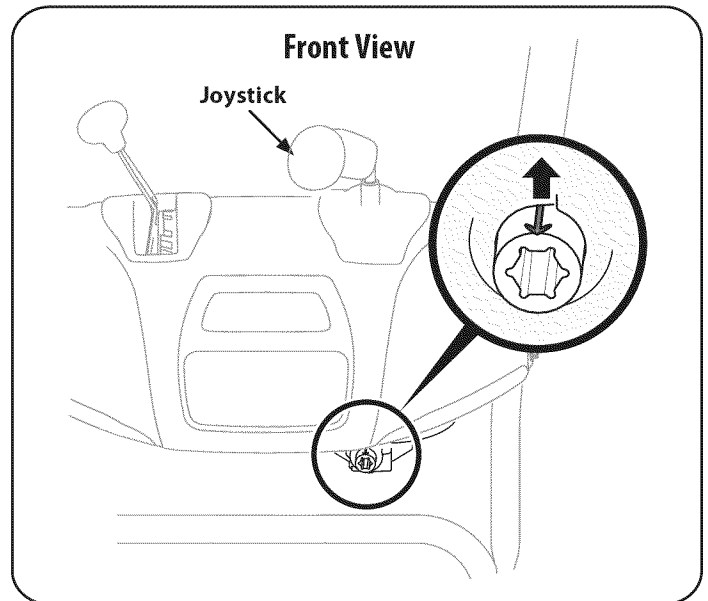

Figure 6
- Rotate the joystick to the one o'clock position so the silver indicator arrow on the input shaft below the control panel points upward. See Figure 6.